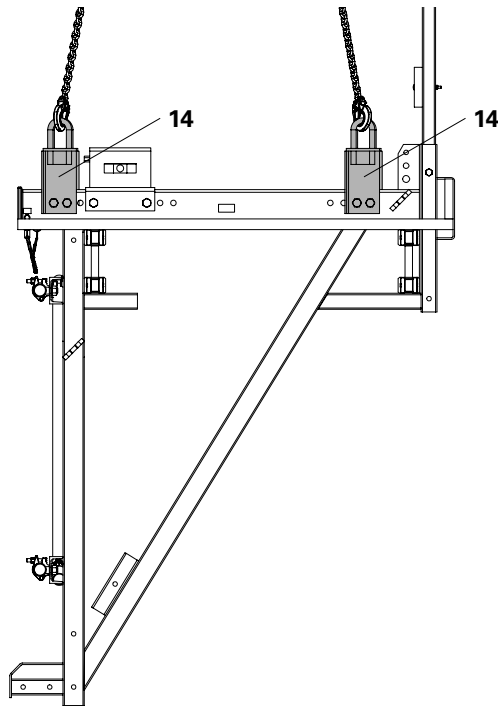

Fig. B1.19
1. Secure two Platform Connections CB 160 (14) each to the Climbing Brackets CB 160.
2. Attach lifting gear hook to the bails of the Platform Connections CB 160 (47). (Fig. B1.19)